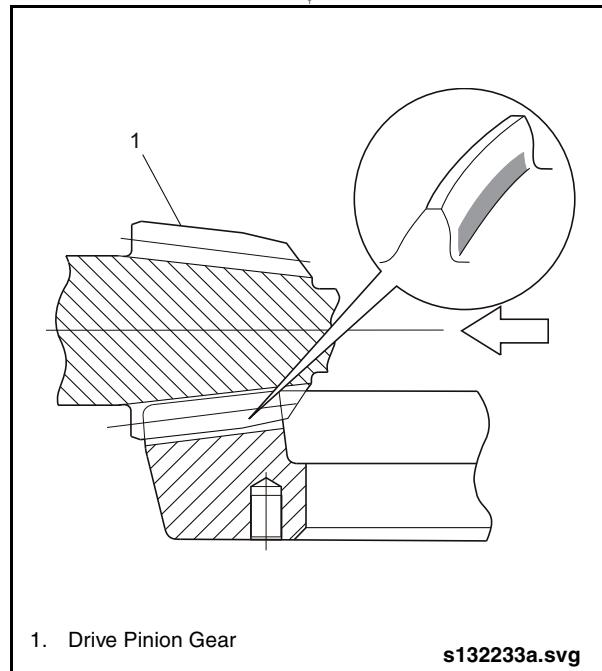

Fig. 2-74: Contact on Tooth Root
1. If there is contact on the tooth root, reduce the installation depth of the drive pinion by using thicker shims. See "Fig. 2-74: Contact on Tooth Root" on page 63.